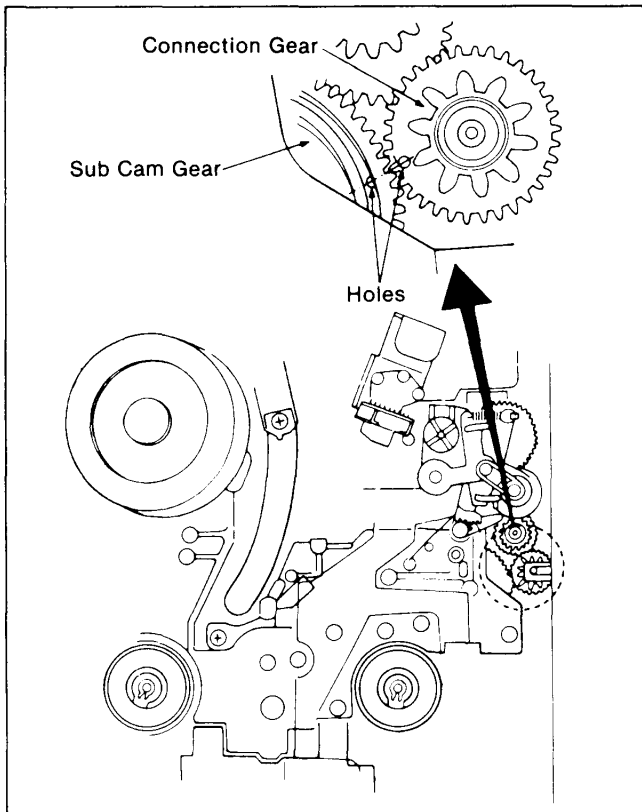
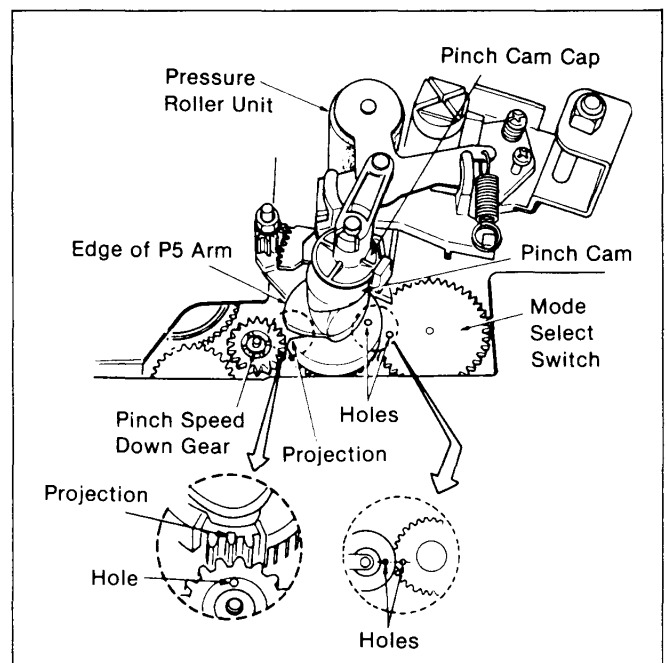

Figure M55
Figure M57
1. Install the Connection Gear so that the small hole on the Connection Gear aligns with the small hole on the Sub Cam Gear as shown in Figure M55.
1. Install the Pinch Cam while pushing the P5 post forward. The gear of the Pinch Cam should drop to a seated position. In this position make sure hole in the Mode Select Switch aligns with small hole on the Pinch Cam, also the small rift on the Pinch Cam should align with the hole on the Pinch Speed Down Gear as shown in Figure M57.
- a) Identification hole on the Mode Select Switch at 6 o'clock position and aligned with small hole on Pinch Cam. (Figure M57)
- b) P5 Arm is completely loading position and the Inclined Base (S) and (T) are completely unloading position.
- c) Small hole on Sub Cam Gear should align with small hole on the Connection Gear (Figure M55) and rectangular mark on the Connection Gear should be at a 3 o'clock position.